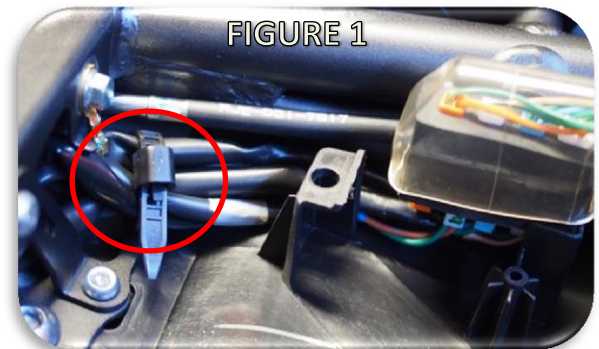

FIGURE 1
2. Remove the reusable cable tie securing the wiring looms together (FIGURE 1).